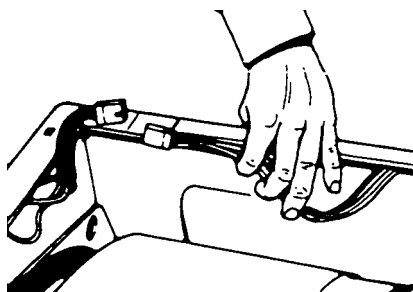

Fig. 39
7. Pull wiring harness out of clips inside top side of dryer. Disconnect the wiring harness. (Fig. 39)